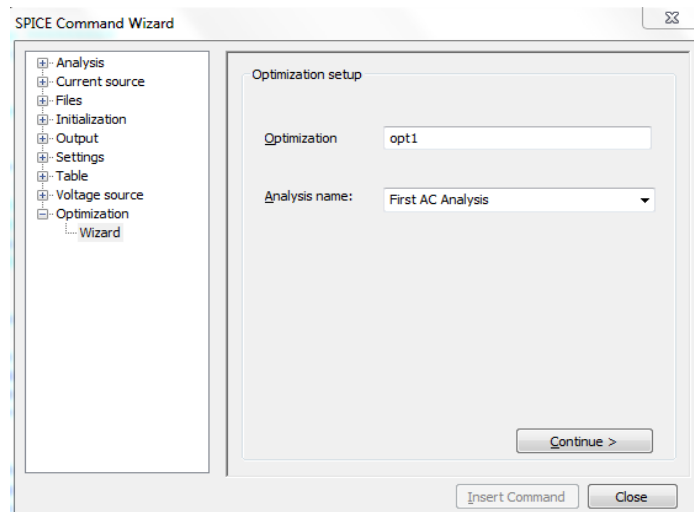

Figure 76: Customizing the optimization setup
- ☑ Enter **opt1** in the **Optimization name** field and select **First AC Analysis** as the **Analysis name** (Figure 76).